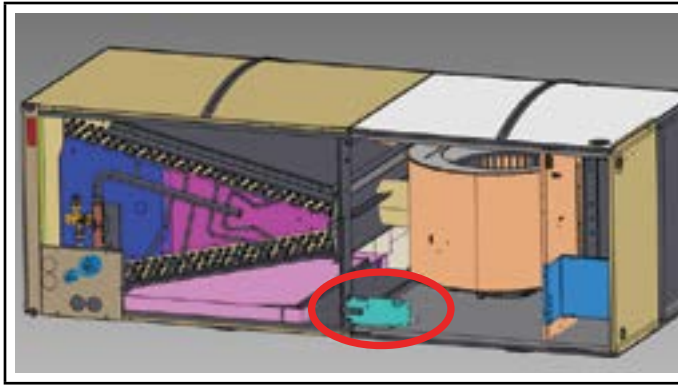

FIGURE 9
- 3 - With air handler unit panels removed, install sensor bracket assembly to the unit by lining up holes in the center support bracket as shown in figure 9. Note: sensor should be facing toward the inside of the unit.